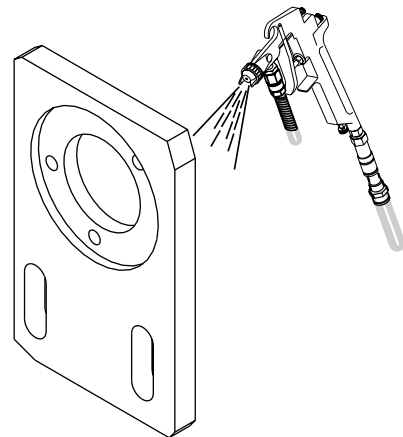

Fig.34
11) Once the correct pressure has been reached aim the spray gun at the product to be painted and begin operations (fig. 34).